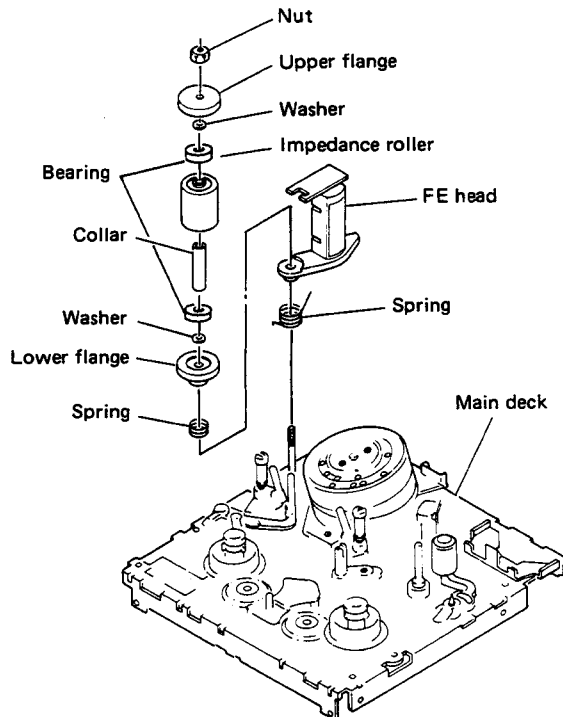

Fig. 2-11 FE head replacement
1. Take off nut (Fig. 2-11) and remove the impedance roller and its peripheral parts.